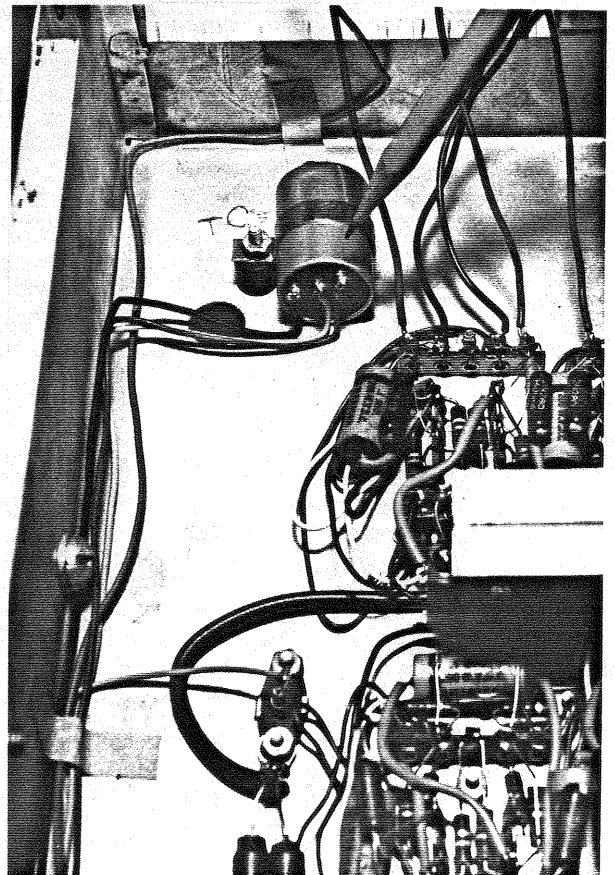

FIG. 111
- 2) An open transformer would cause a dead generator output, but shorted turns can cause a distorted output. The transformer is generally located at one end of the generator near the output connectors (Fig. 111), but in some models you will find it located in the middle of the chassis along one wall.